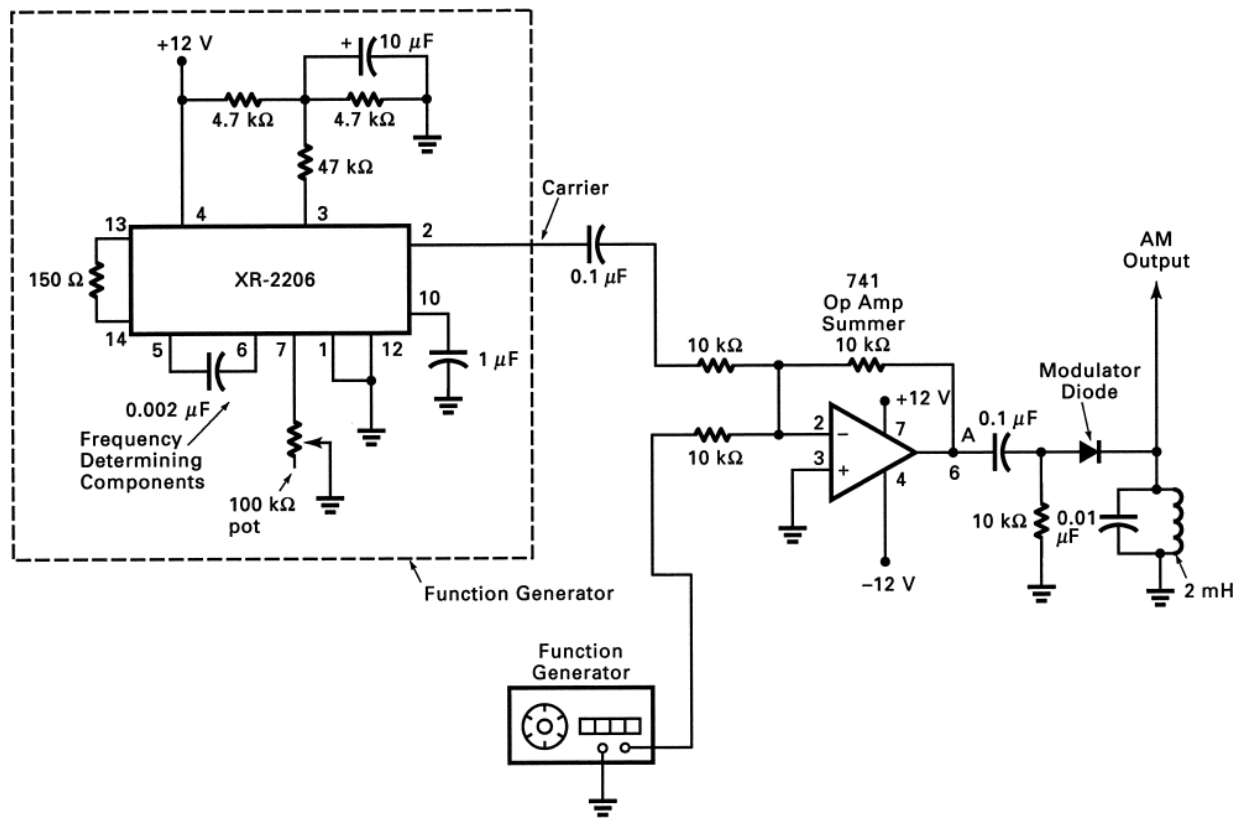

Fig. 4-1 Diode (AM) modulator circuit.
1. Modify the function generator circuit you used in Project 3-1; the revised circuit is shown in Fig. 4-1. First remove the 10- and 6.8-k Ω resistors connected to pin 1 of the 2206. Also remove the 0.47- μ F capacitor and the 1-k Ω pot. Then connect pin 1 of the 2206 to ground. This modification removes the amplitude modulation capability of the 2206. In this experiment, you will use the function generator simply as a carrier oscillator.
2. Construct the remaining portion of the circuit shown in page 24 Fig. 4-1. The circuit consists of an op amp summer used as a linear mixer and a diode modulator mixer circuit. This first circuit will be used for amplitude modulation.